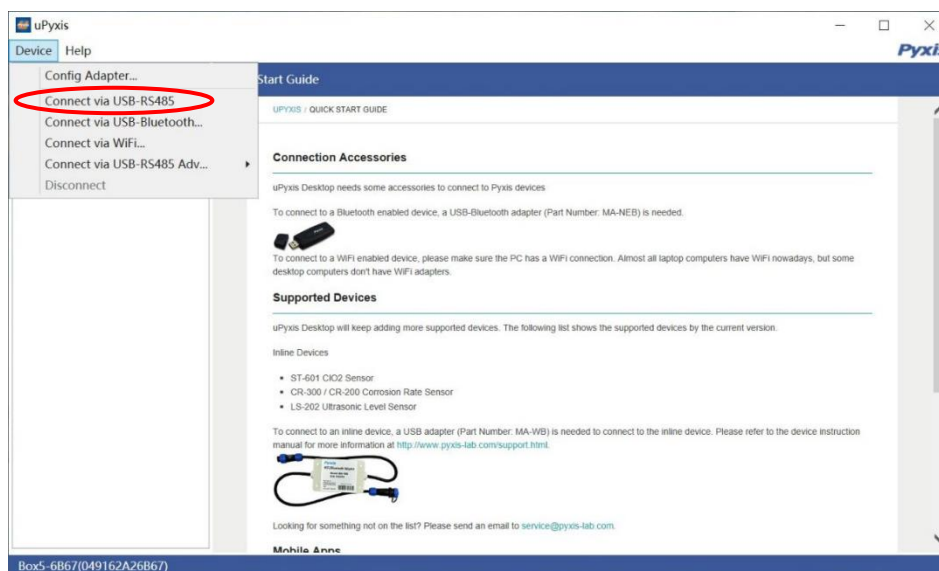

Figure 39. Connection Options
5. Click **Device** to launch the connection option menu and select **Connect via USB-RS485** (Figure 39).